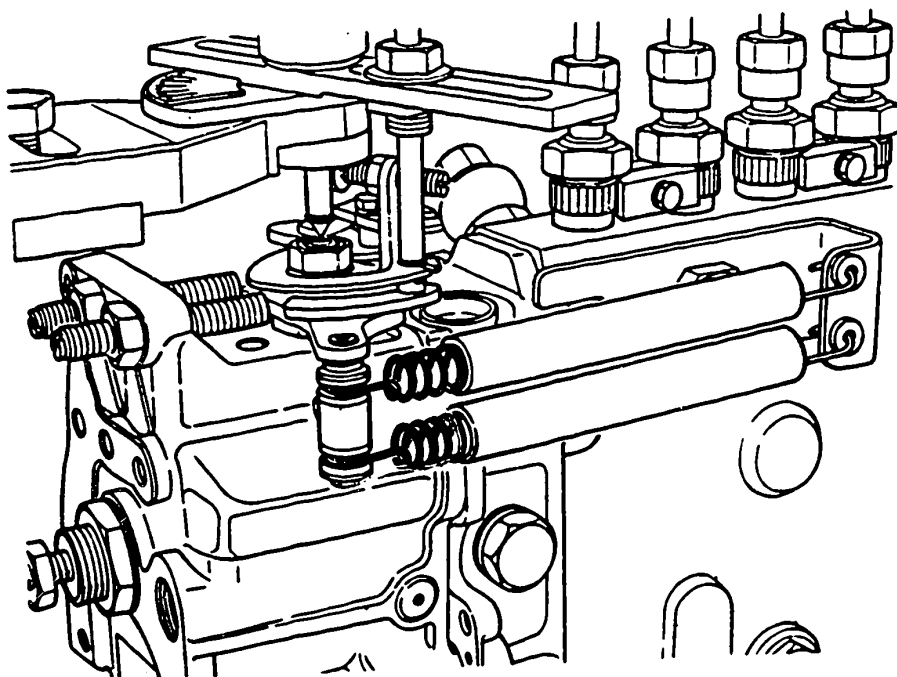

Fig. 87:
2. Block control lever in idle position (Fig. 87).